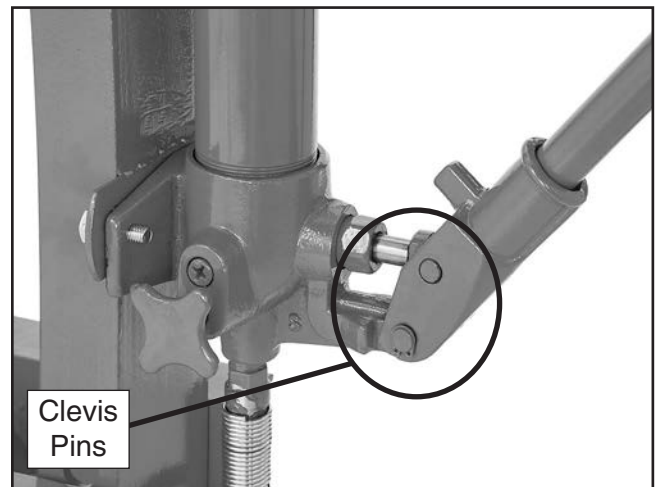

Figure 25. Clevis pins location.
1. Using a hand-held oil gun, apply one or two drops of any standard machine oil or motor oil to all clevis pins, as shown in **Figure 25**.